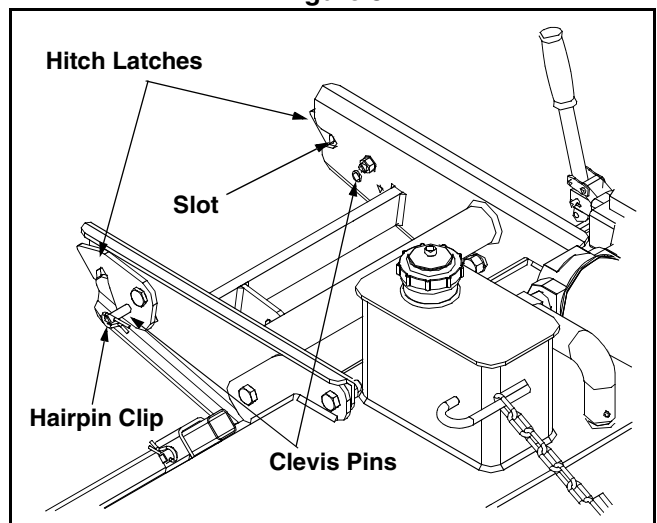

Figure 9
- Remove the two clevis pins from the hitch latches found on both sides of the tiller assembly by first removing the two hairpin clips which secure them in place. See Figure 9.
- Position the slotted portions on the front of the tiller assembly (found to the **INSIDE** of the hitch latches, refer to Figure 9) onto the hitch rod of the sleeve hitch. The hitch latches will then fall into place over the hitch rod.